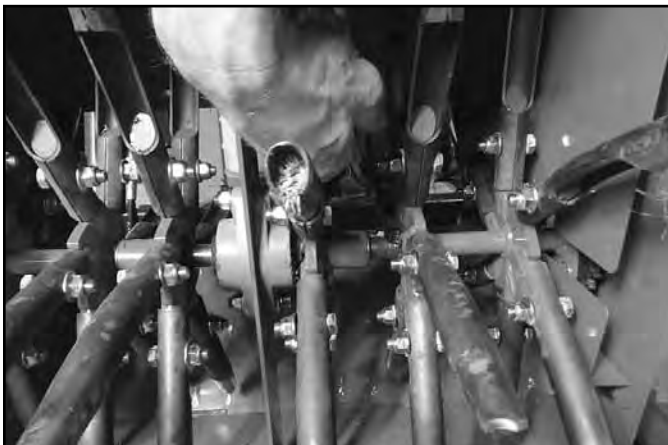

Fig. 157
6. Move the inner spiders all the way toward the flange bearings. Move the snap ring back into position on the shafts (Fig. 157).